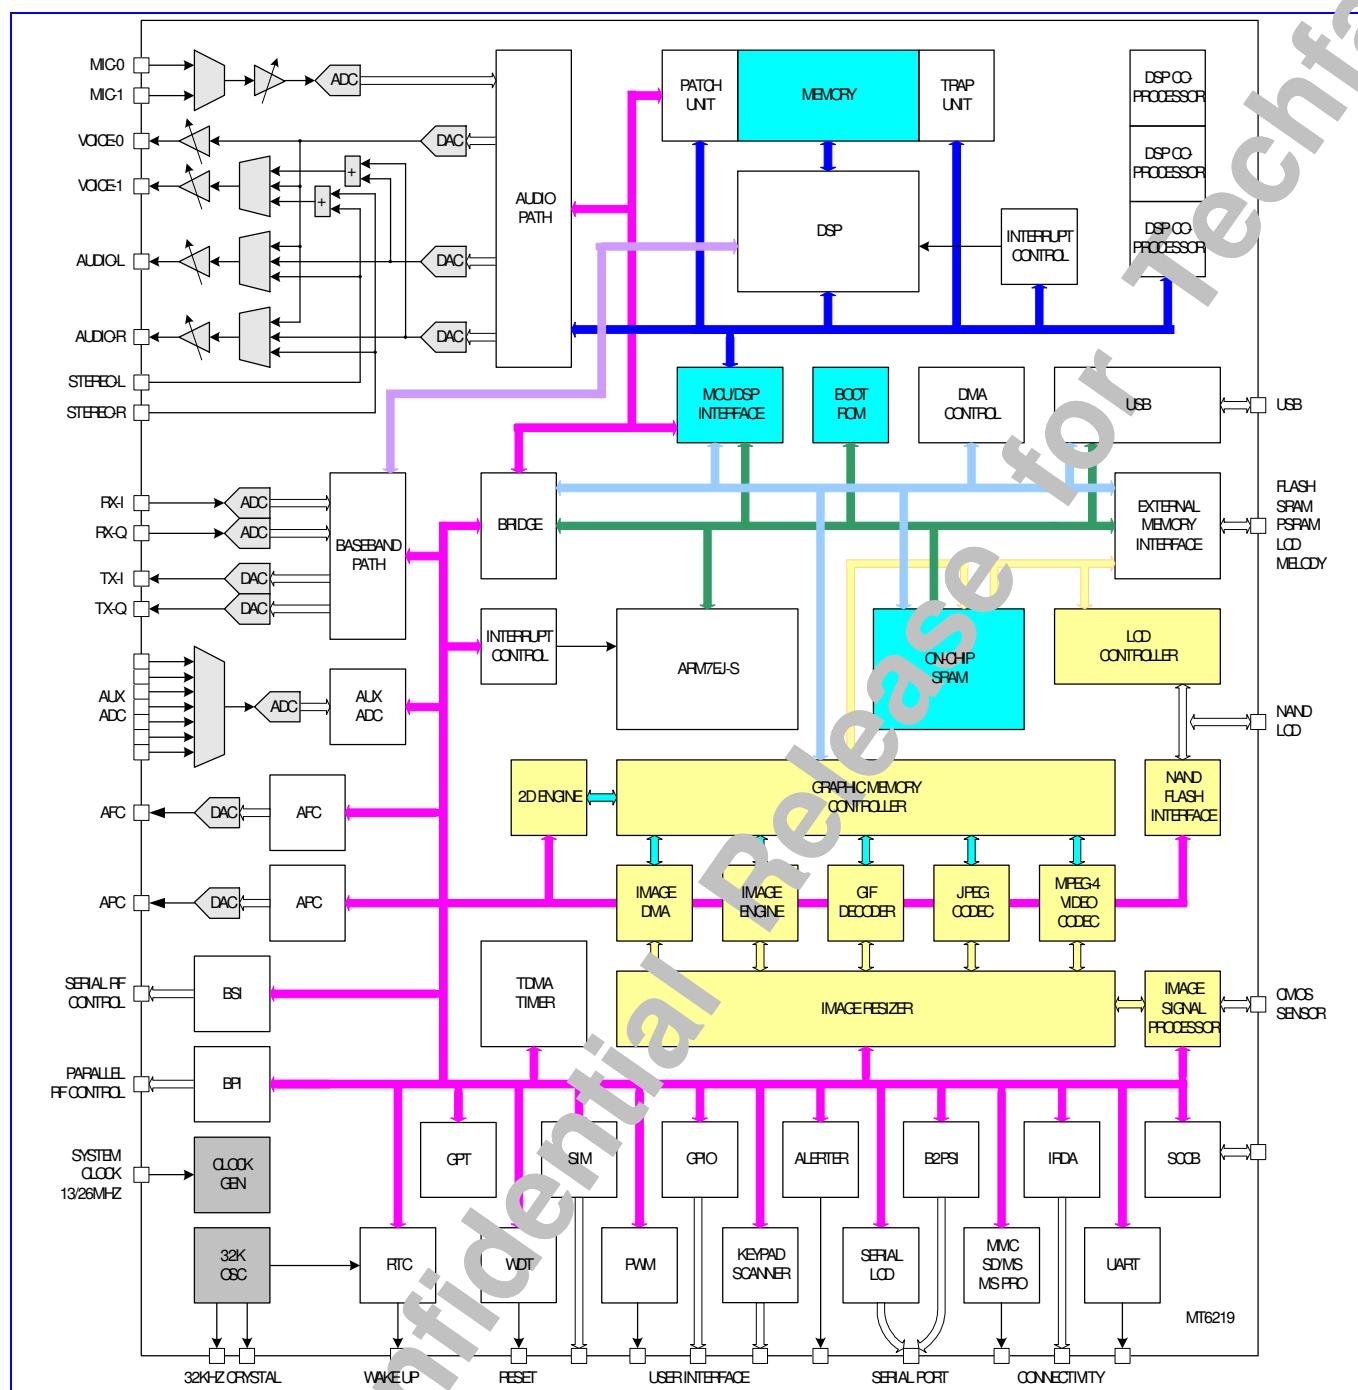

Figure 2 MT6219 block diagram.
**Figure 2** details the block diagram of MT6219. Based on a dual-processor architecture, MT6219 integrates both an ARM7EJ-S core and a digital signal processor core. ARM7EJ-S is the main processor that is responsible for running high-level GSM/GPRS protocol software as well as multi-media applications. The digital signal processor handles the low-level MODEM as well as advanced audio functions. Except for some mixed-signal circuitries, the other building blocks in MT6219 are connected to either the microcontroller or the digital signal processor.